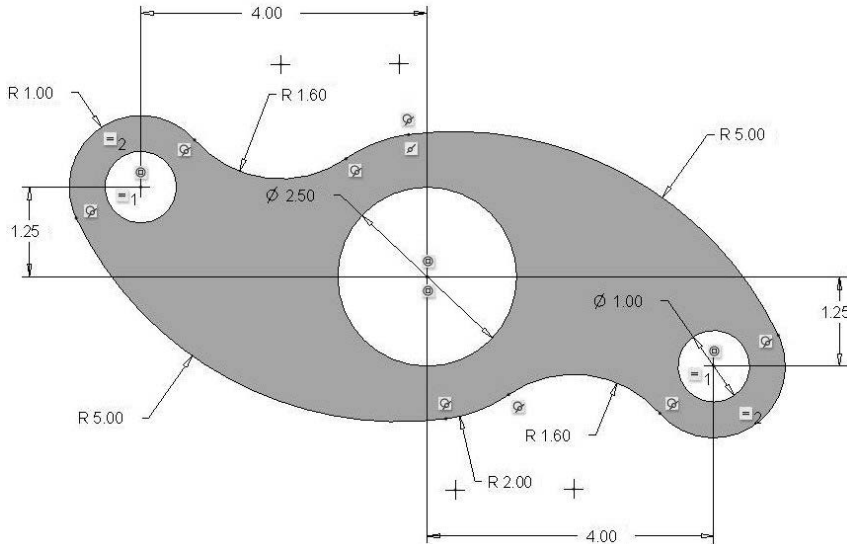

Figure 3-74 Problem 5—Rocker
- 3.5 Draw the front view of the "rocker" (Figure 3-74). **Design Intent**—The rocker is symmetric about the center hole. The right 1.00-inch diameter hole must be 4.00 inches right of the center hole and 1.25 inches below it. The left 1.00-inch diameter hole must be 4.00 inches left of the center hole and 1.25 inches above it. The arcs that form the perimeter are tangent to each other. **Hint:** draw circles tangent to each other, then trim them to form the arcs.